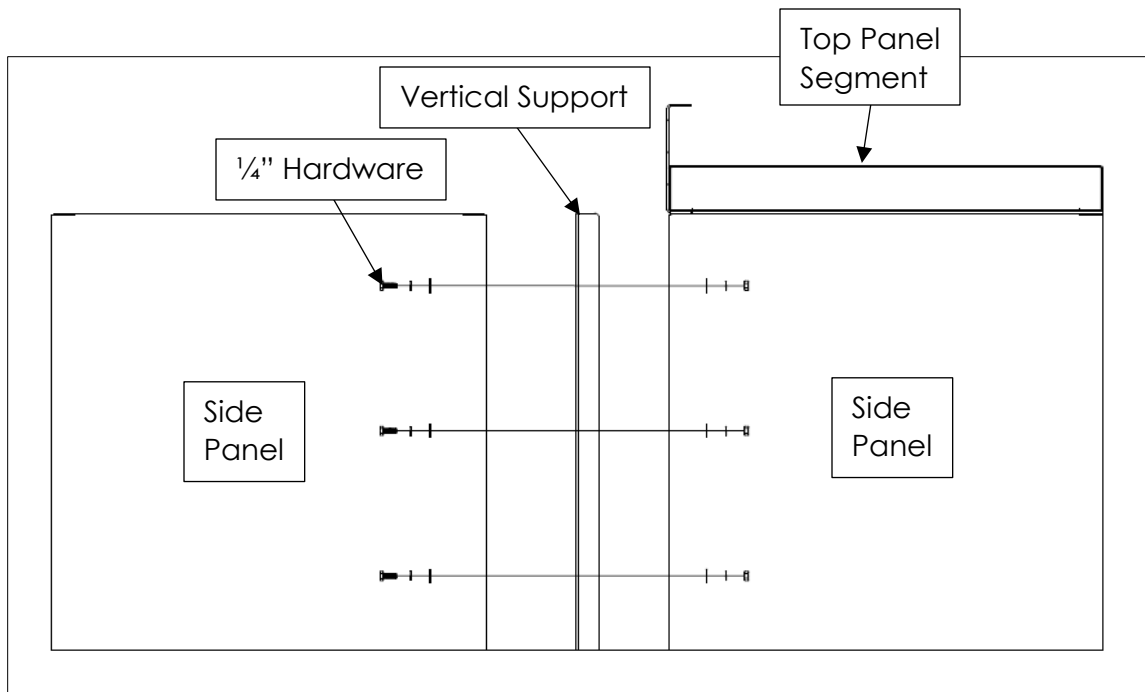

FIG. 12
6. Bolt the next set of side panels to the booth. These side panels are joined with the vertical supports. Make sure the flange on the vertical support sits on the outside of the side panels (see **FIGS. 12, 13**).